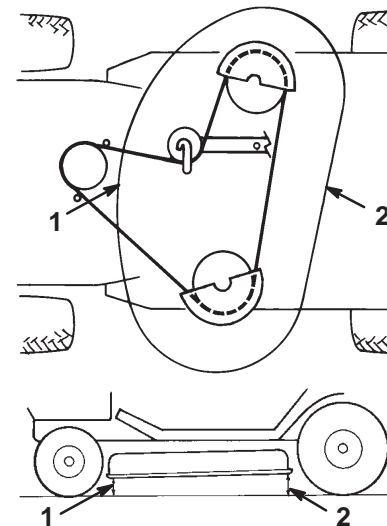

Figure 50
- Check the front-to-rear slope by measuring between the bottom of the mower (front center and rear center) and the flat surface (Fig. 50). If the front is not within a range of 1/8 to 3/8 in. (3 to 10 mm) lower than the rear, adjust it.